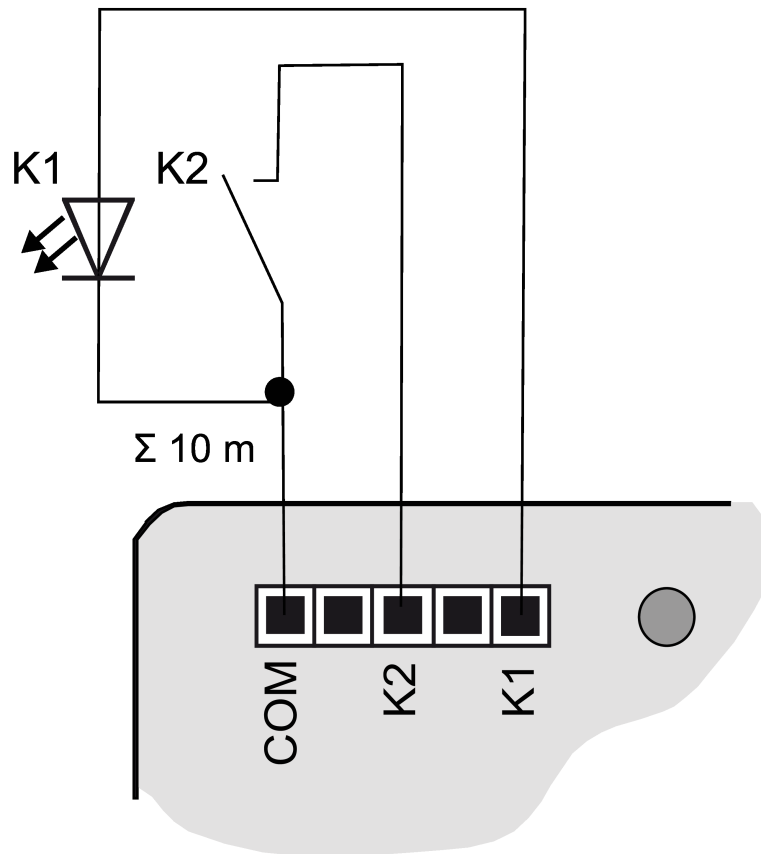
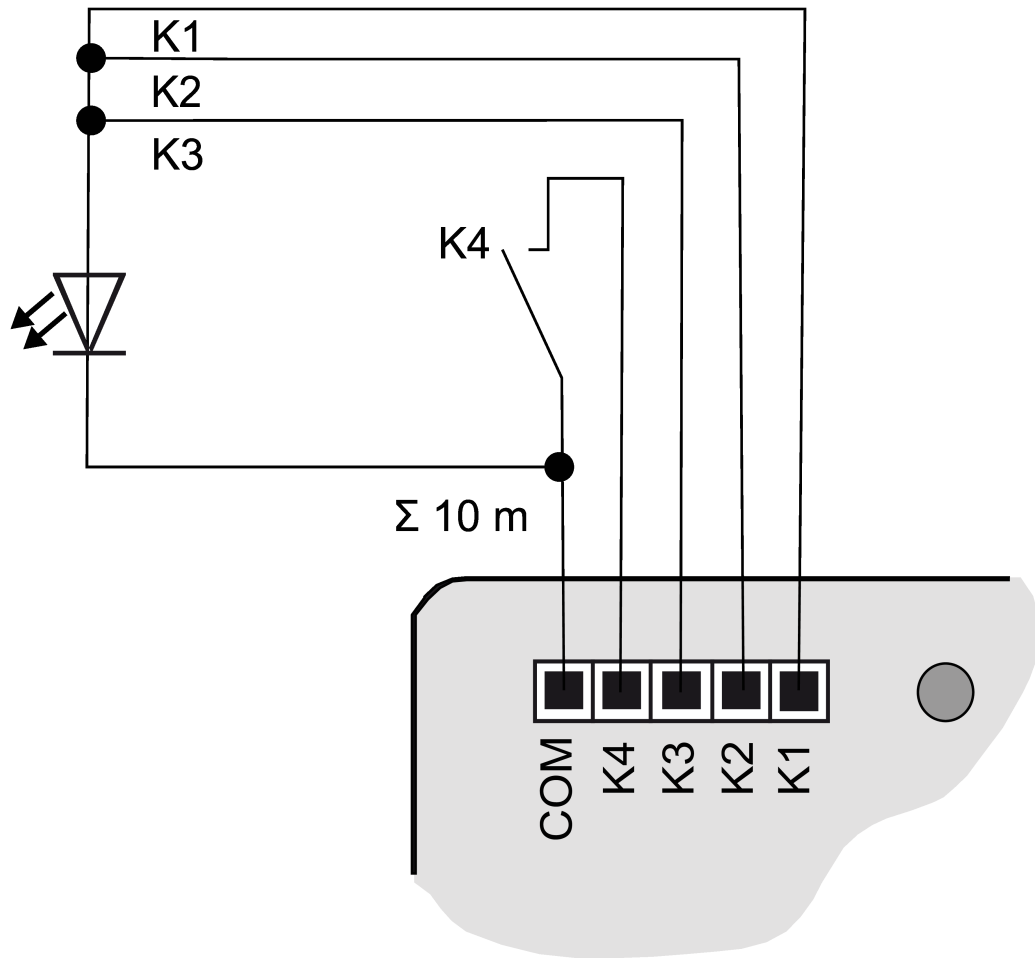

Figure 6: Connection example: push-button interface 2-gang
Figure 9: Connection example with outputs switched in parallel
- Connect push-buttons, switches, contacts or LED to enclosed connecting cables (4) according to the connection examples; (see figure 6) to (see figure 9). The connection examples show the use with inputs and outputs.
- i** To increase the output current, outputs can also be switched parallel to each other with the same parameterization; in the example here, (see figure 9) **K1-K3** are switched in parallel.